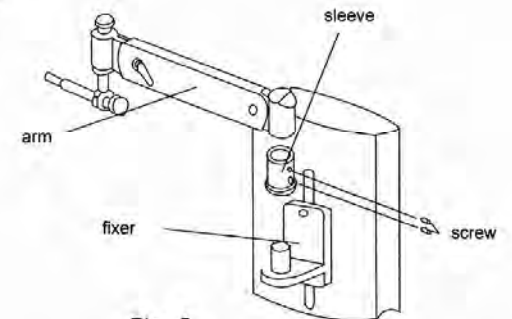

Fig. 5
4. Installation of Arm (Fig. 5)